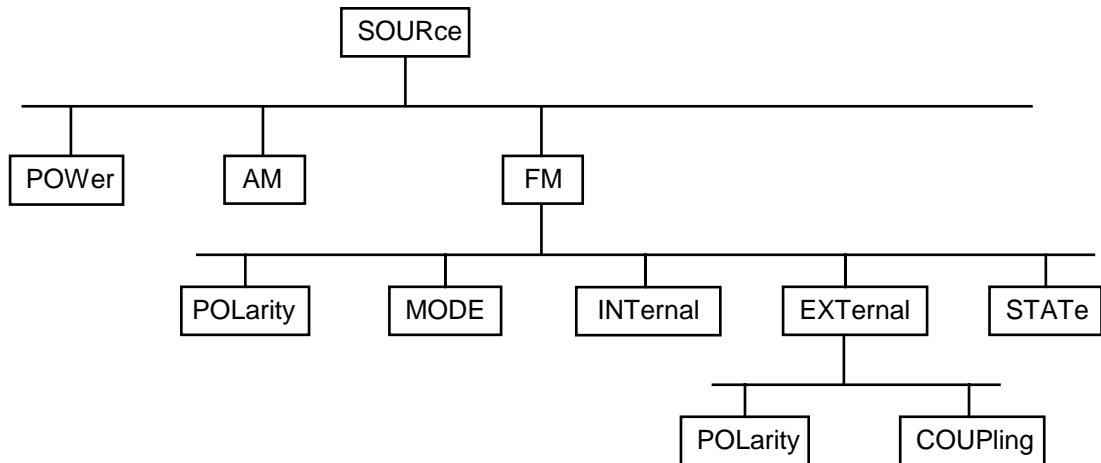

Fig. 8-1 Tree structure of the SCPI command systems using the SOURce system by way of example
SCPI (Standard Commands for Programmable Instruments) describes a standard command set for programming instruments, irrespective of the type of instrument or manufacturer. The goal of the SCPI consortium is to standardize the device-specific commands to a large extent. For this purpose, a model was developed which defines the same functions inside a device or for different devices. Command systems were generated which are assigned to these functions. Thus it is possible to address the same functions with identical commands. The command systems are of a hierarchical structure. Fig. 8-1 illustrates this tree structure using a section of command system `SOURce`, which operates the signal sources of the devices. The other examples concerning syntax and structure of the commands are derived from this command system.
**Hierarchy:** Device-specific commands are of hierarchical structure (see Fig. 8-1). The different levels are represented by combined headers. Headers of the highest level (root level) have only one key word. This key word denotes a complete command system.
If the successive commands belong to the same system, having one or several levels in common, the command line can be abbreviated. To this end, the second command after the semicolon starts with the level that lies below the common levels (see also Fig. 8-1). The colon following the semicolon must be omitted in this case.